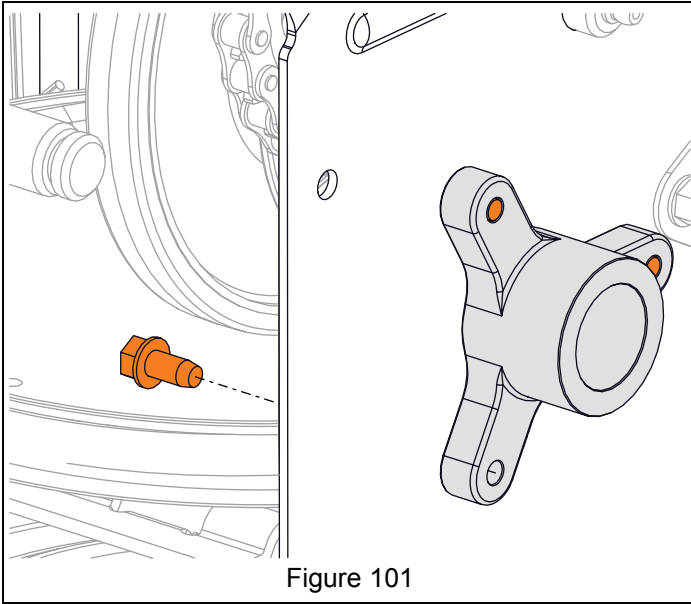

Figure 101
1. Secure bushing to frame exterior with three tapping screws from inside frame. See Figure 101.